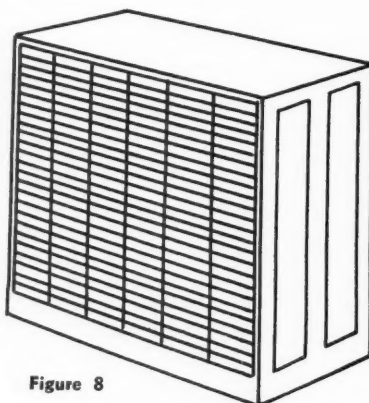

Figure 8
2. A cabinet of wood for the storage of either trays or 12 by 18 galleys. Capacity of about 600. See Figure 8.